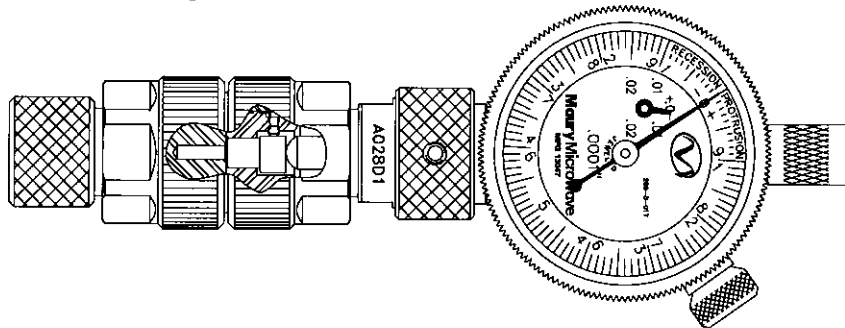

Figure 2. Zero Setting the Connector Gage
Procedure: Refer to Figure 2
4. Align the connector gage and master setting gage as shown in **Figure 2**. Then rotate the knurled nut, allowing it to engage with the threaded sleeve. Let the master setting gage bottom freely against your A028D1. Tighten by using an MMC 2698C2 torque wrench (12 inch pounds). The dial pointer should rotate clockwise and stop at zero after one or more revolutions. The small dial pointer should also read zero.
5. If resetting zero is required, hold the dial indicator and master gage in one hand. Loosen the dial lock and rotate the bezel (outside of dial indicator) to the zero position indicated by the pointers on the indicator. Retighten the dial lock (see **Figure 2**).